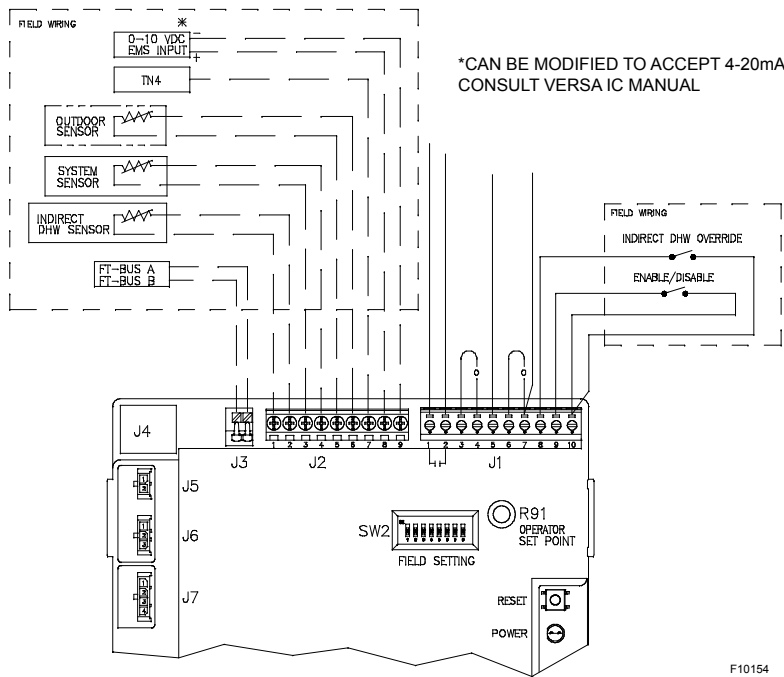

Figure 19. XPak FT Single Boiler Control
Connect the Enable/Disable terminals to the PIM. See Figure 19. Alternately, any dry contact closure (including a remote thermostat) across these terminals will enable the XPak FT unit to run. Caution should be used to ensure neither of the terminals becomes connected to ground.
2. To enable this remote control function, set dip switch 5 to the UP position on the PIM. Dip switch 5 Toggles between an EMS (UP) signal or a demand signal from the VERSA (DOWN). Dip switch 2 on the PIM toggles between a Direct Drive (UP) input and a Target Temperature (DOWN) setpoint.
4. Connect an Energy Management system or other auxiliary control signal to the terminals marked 0-10V (+ /-) on the PIM. See Figure 19 on page 24. Caution should be used to ensure that the +0-10V connection does not create a short to ground.
3. Connect the system supply sensor to terminals 3 and 4 on the J2 connector located on the Master PIM. See Figure 19 on page 24 .
4. Connect the Outdoor air sensor (if used) to terminals 5 and 6 on the J2 connector located on the Master PIM. See Figure 19 on page 24.
5. Connect the Enable/Disable wiring to terminals 9 and 10 on the J1 connector located on the Master PIM. See Figure 19 on page 24. This connection must be provided through dry contacts closure.